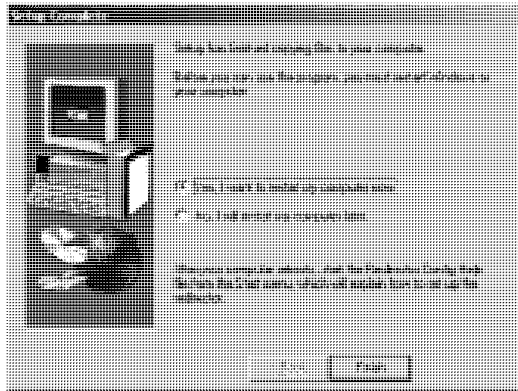

Figure 25: Setup Complete Dialog Box
3. After installation, the Setup Complete dialog box appears (Figure 25).